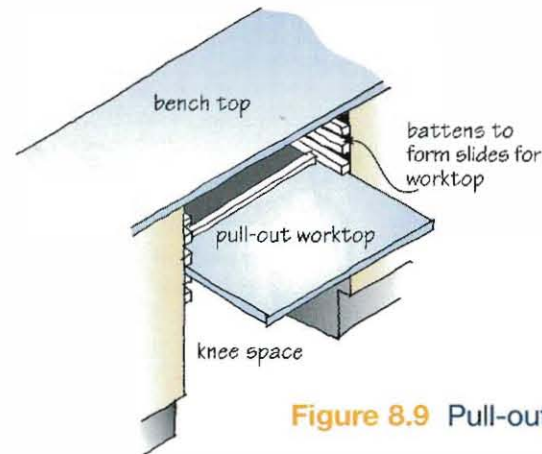

Figure 8.9 Pull-out adjustable height worktop
- pull-out, retractable worktops, which may also be adjustable, as shown in figure 8.9